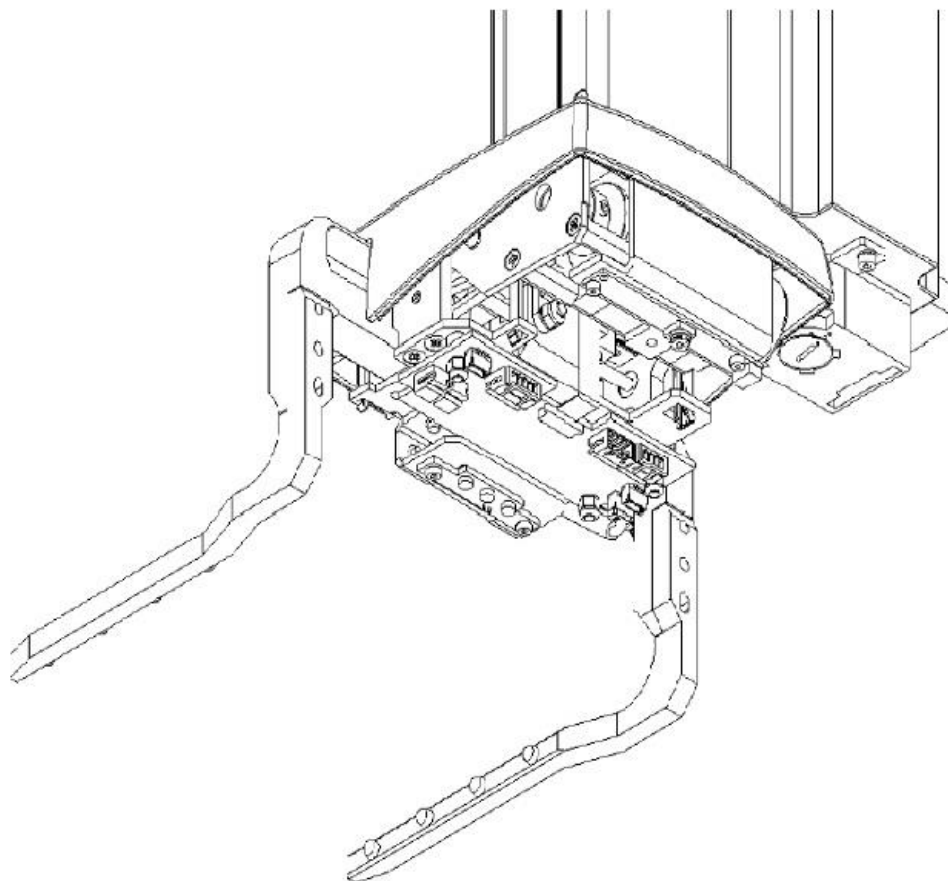

Figure H-2: Disconnect the Rotator Drive Flex Cable
2. Disconnect the Rotator Drive Flex Cable to the Gripper PCB as shown in Figure H-2.